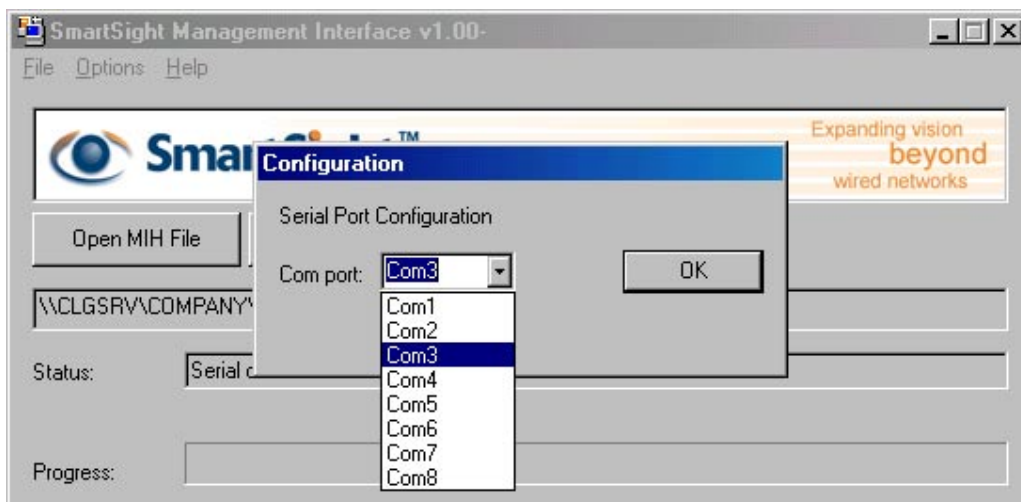

Figure 12 Serial Port Configuration Window
STEP 2. If you are not using your computer's COM1 serial port (the default port used by the SMI program after installation), you will have to select the correct serial port number on your computer by choosing the <Options>, <Serial port setup> path from the SMI menu. A window as the one showed in 'Figure 12' will appear.